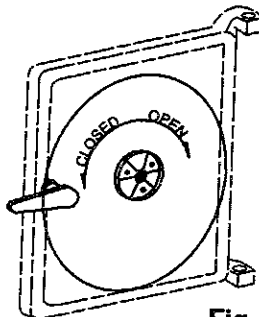

Fig. 9
Only when the coal is burned down to half its original depth it is time to add fresh coal. When doing so, open your stove pipe damper and turn your thermostat damper to high, which will allow the fire to burn off any accumulated gases. Open the feed door, and with a small rake, hoe or hooked poker pull the glowing coals to the front of the firebox. Try not to disturb the fire too much. Next, add a fresh charge to the back being careful not to seal off the top. Close the feed door but leave the spin damper (Fig. 9) open for a few minutes until the until the volatile gases have burned off. It is not necessary to shake down the ashes each time you refuel your Wondercoal. Experience will be your best teacher.
To revive a coal fire that is almost out, you should (1) open the ash door and stove pipe damper and close the spin damper (Fig. 9) on the door to get a good enough draft through the grate. (2) Place a thin layer of dry coals over the entire top of the fire. **DO NOT POKE OR SHAKE THE FIRE AT THIS TIME!** (3) After the fresh coal has become well ignited shake the grate (just a little) and you will be ready to refuel.